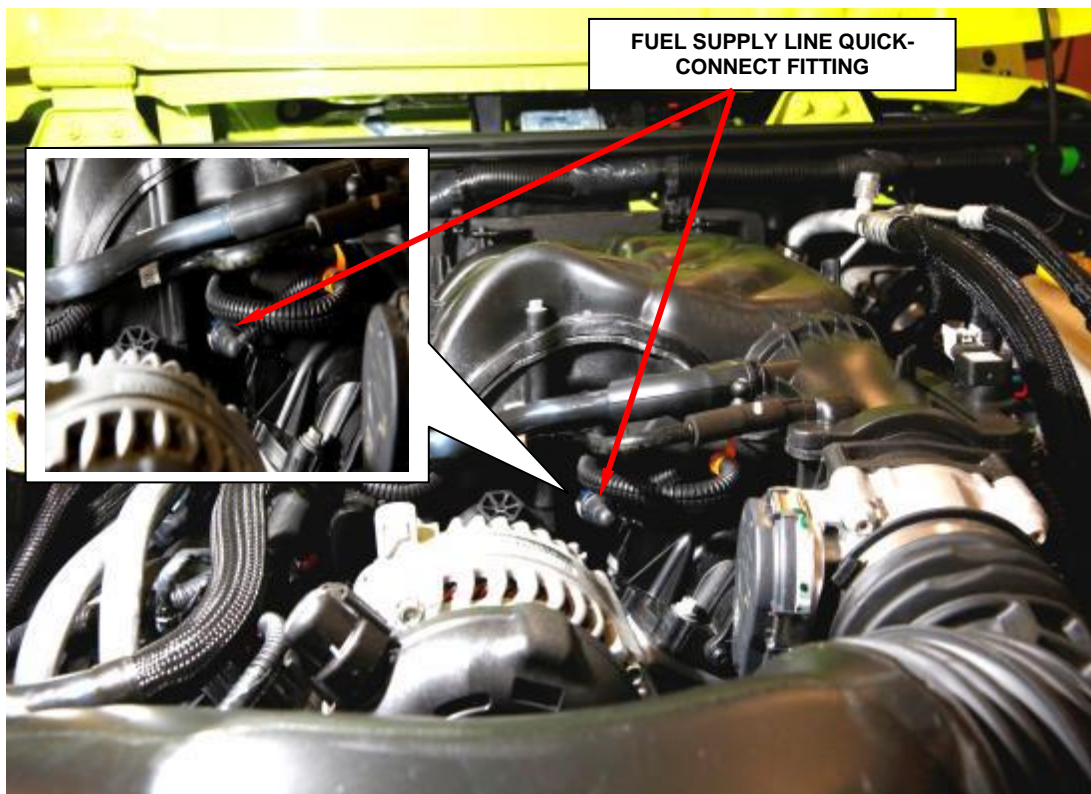

Figure 3 – Fuel Supply Line
6. Place a rag or towel below the fuel supply line quick-connect fitting at the fuel rail (Figure 3).
7. Disconnect the fuel supply line quick-connect fitting from the fuel inlet tube at the fuel rail (Figure 3).